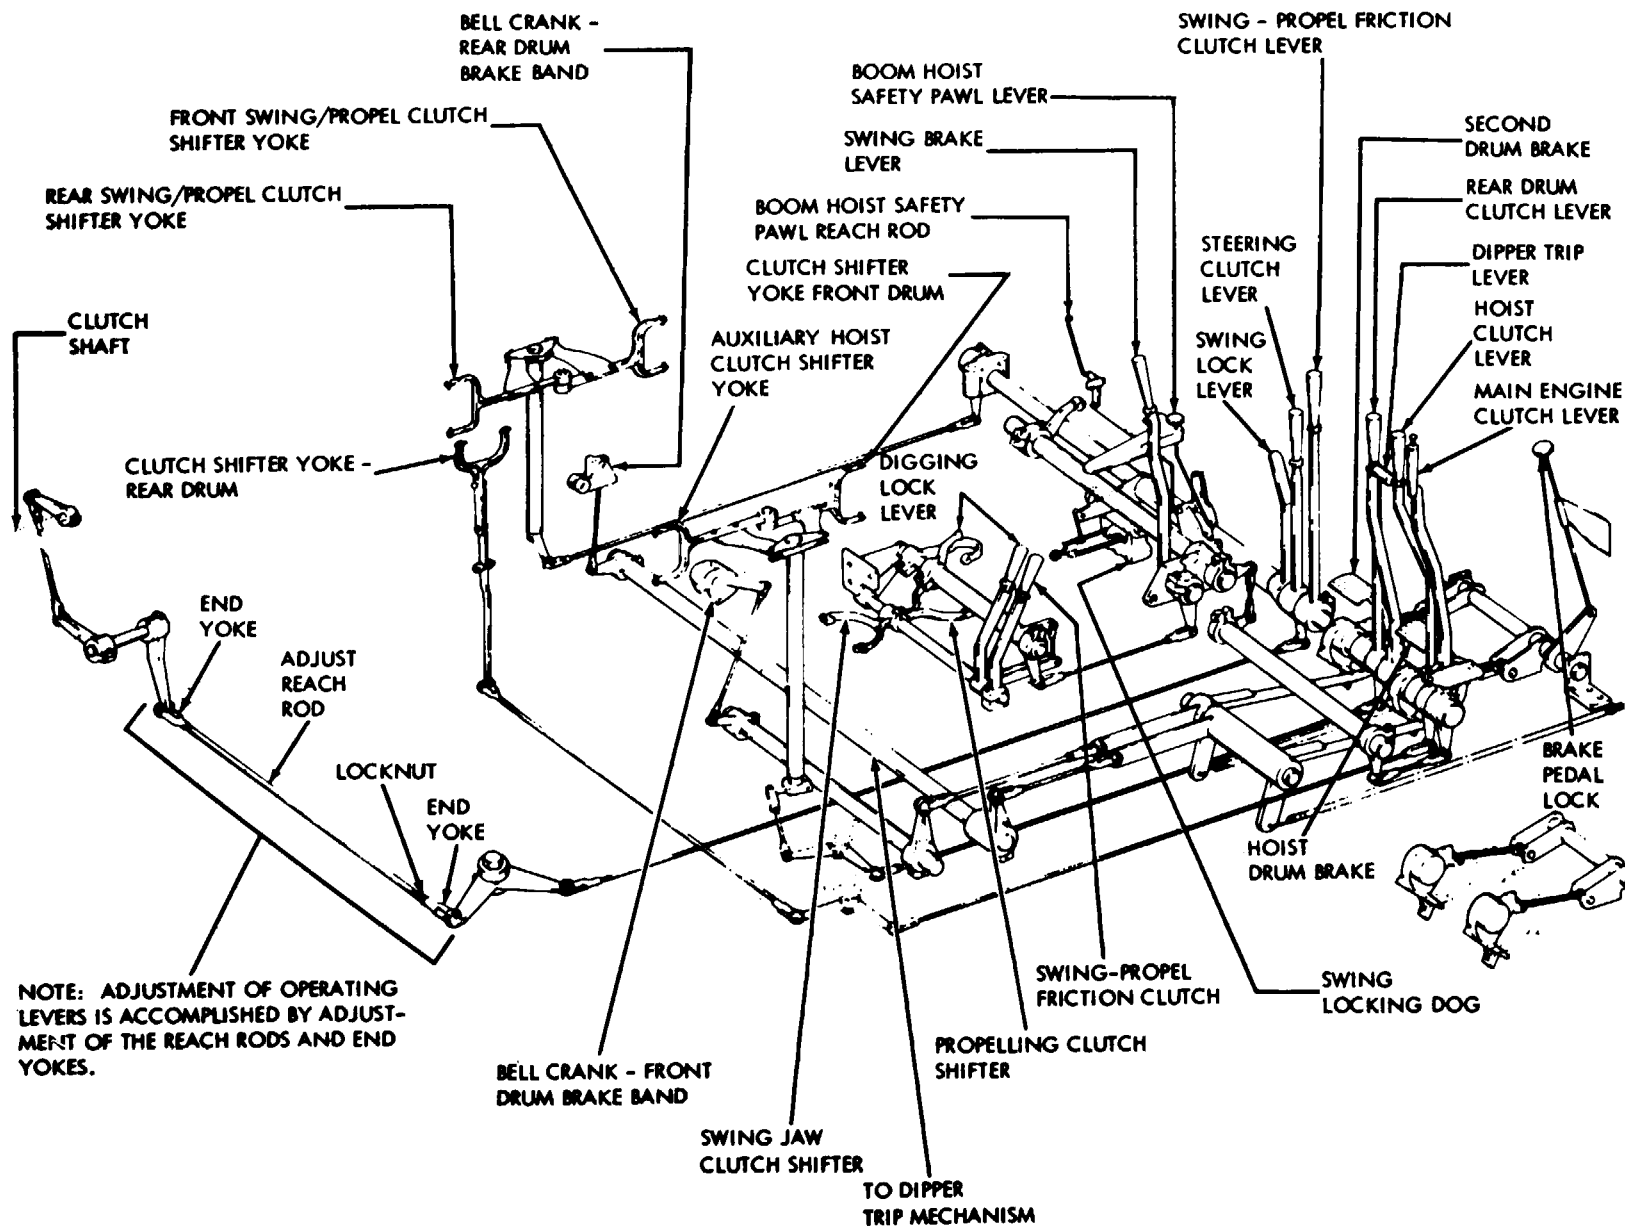

Figure 4-19. Control levers.
(1) Remove shaft cap and loosen setscrew.
(2) Slide sprocket from shaft.
(3) Tap out control shaft with housing and ball bearings on shaft.
(4) Ball bearings on sprocket end of shaft should remain in place unless replacement is required.
c. Control Linkage. Refer to figure 4-19 and remove control linkage.